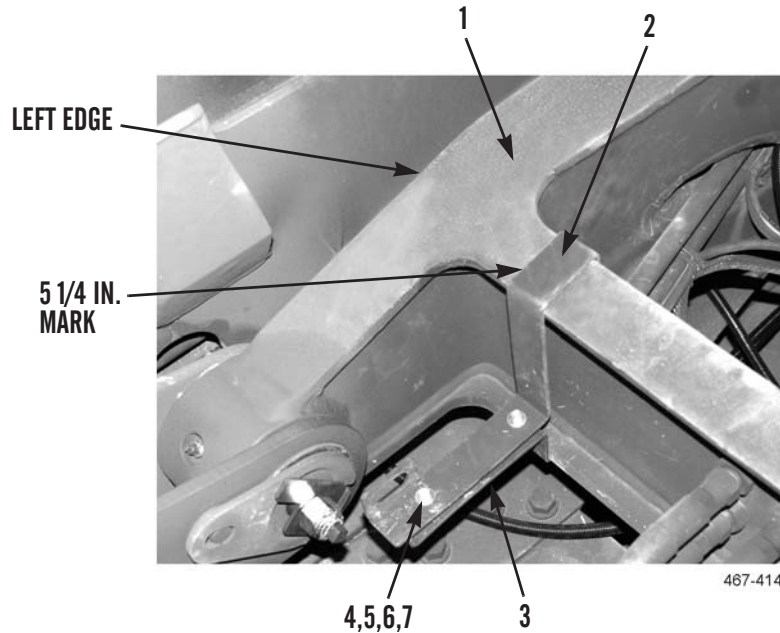

Figure 46. Middle Frame Sensor Bracket Installation.
4. Install upper sensor bracket (Figure 46, Item 2), lower sensor bracket (Figure 46, Item 3), three washers (Figure 46, Item 5), bolts (Figure 46, Item 4), washers (Figure 46, Item 6), and locknuts (Figure 46, Item 7) on middle frame (Figure 46, Item 1), aligning left edge of sensor bracket with 5 1/4 in. mark.